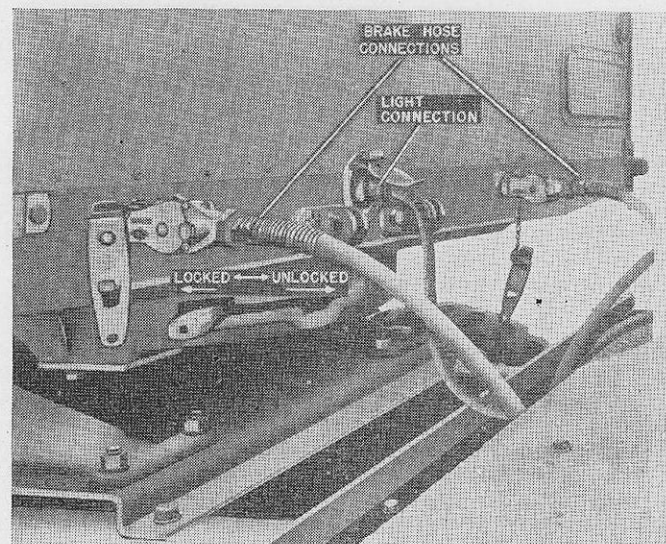

FIGURE 11.—Prime mover coupling.
g. Release the coupler on the trailer by moving the coupler release handle forward. (See fig. 11.)